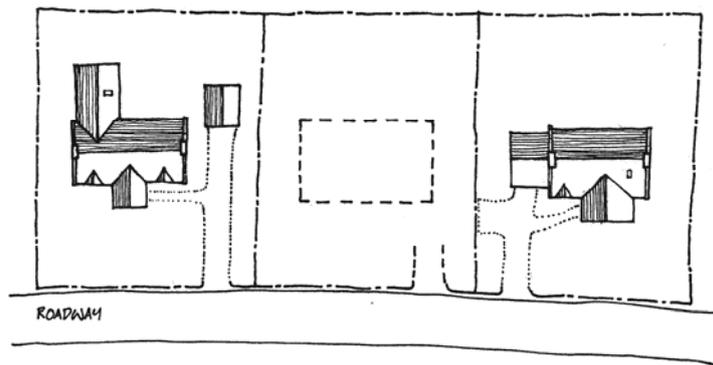

Figure 17: an infill site.
4.42 The dotted line in Figure 17 represents a suitable building footprint for the infill site, reflecting the building line and ratio of plot size to building footprint. Following these simple rules, and reflecting the adjacent materials and forms, there is still plenty of scope for innovative and individual designs.